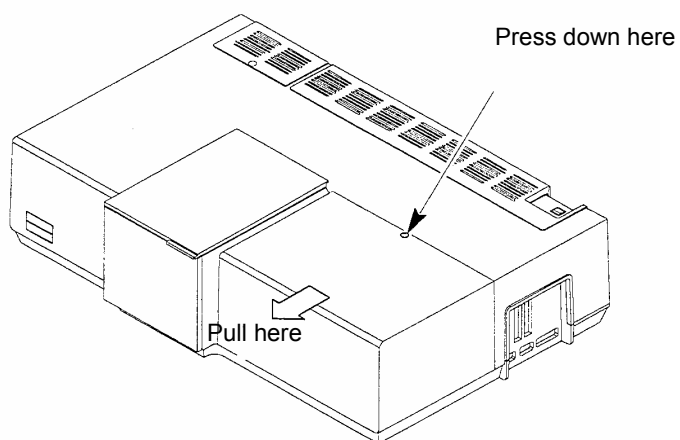

Figure 16 Removing the detector compartment cover
2. Remove the detector compartment cover by pressing down the catch and carefully pulling cover forwards until the catches are free and you can lift off the cover, as shown in Figure 16.